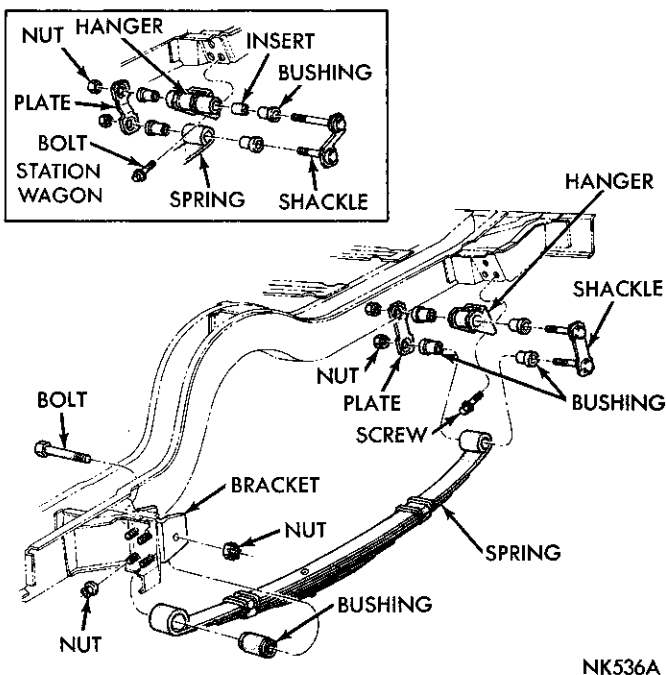

Fig. 6—Rear Spring (Station Wagon & Convertible)
(1) Raise vehicle on hoist to a comfortable working position.
(2) Using floor stands under axle assembly, raise axle assembly to relieve weight on rear spring.
(3) Disconnect rear shock absorber at spring plate lower mounting stud. Lower axle assembly, permitting rear springs to hang free.
(4) Loosen and remove "U" bolt nuts and remove "U" bolts and spring plate.
(5) Loosen and remove the nuts holding front spring hanger to body mounting bracket (Fig. 6).
(6) Loosen and remove rear spring hanger bolts and let spring drop far enough to pull front spring